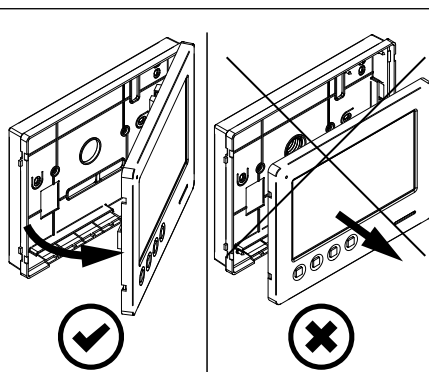

Fig. 2
2. Pull outwards the left part of the cover as shown in Fig. 2. **Don't pull the cover straight.**